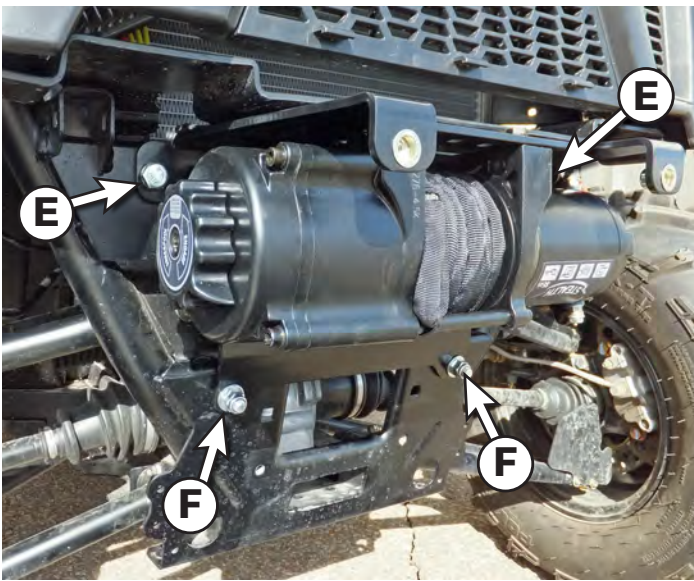

Figure 7.
9. Lift assembled winch and mount into position on machine frame as shown in Figure 7 (pg3). Fasten to frame using two M10 bolts & lock washers at
- positions (E) and two 3/8" carriage bolts & flange nuts at positions (F). Loosely start the top bolts first to make install easier. Install carriage bolts (F) with the head to the rear of the frame and nut on the front side with the mount plate as shown in Figure 7 (pg3) and Figure A (pg1). Tighten all hardware evenly.